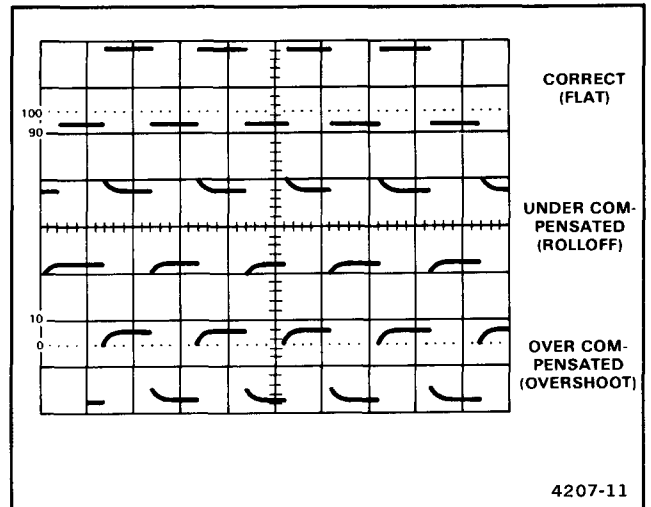

Fig. 2-11. Probe compensation.
7. Check the waveform presentation for overshoot and rolloff (see Figure 2-11). If necessary, adjust the probe compensation for flat tops on the waveforms. Refer to the instructions supplied with the probe for details of compensation adjustment.